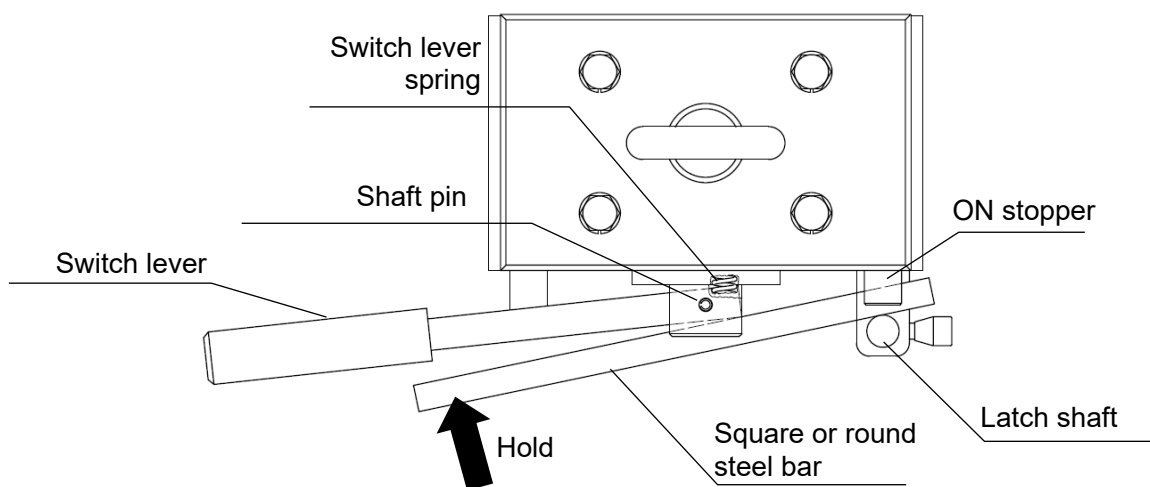

Figure 12-2 Striking the shaft pin
- ◆ For hole alignment, hitch the square  $10 \times 10$  x length approx. 200mm or round  $\Phi 10$  x length approx. 200mm steel bar on the latch shaft, perform the alignment while pressing the switch lever, and then insert the shaft pin as shown in Figure 12-2.
- Mount the switch cover. (Refer to (1) Switch cover, 2) Mounting.)